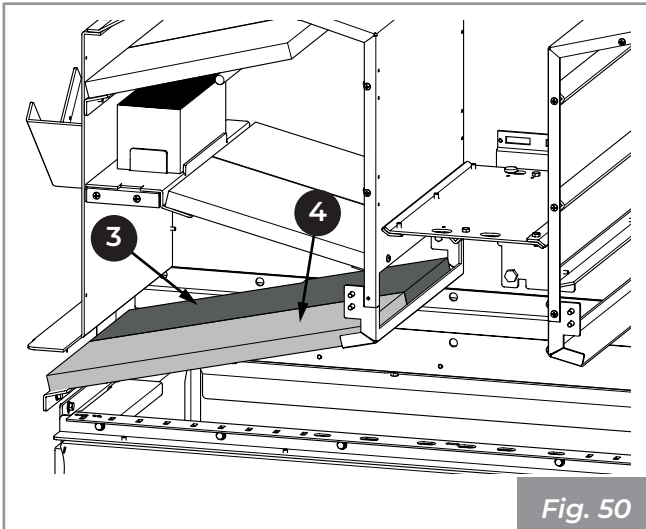

Fig. 50
- 4) Slide out and extract the panels (4 and 3) (Fig. 50).